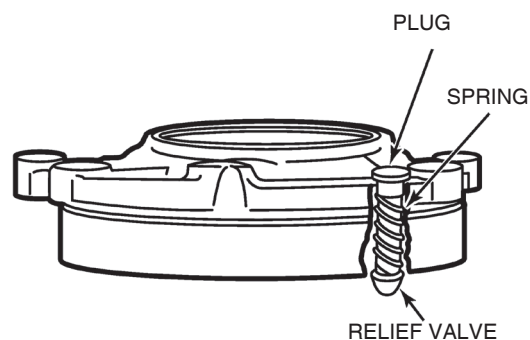

Figure 5.72
- D. If removed, install the pressure relief valve assembly into the input bearing cage. Install the relief valve, spring and plug in the bore. Tighten the plug to 20-40 lb-ft (27-54 N.m). Figure 5.72.